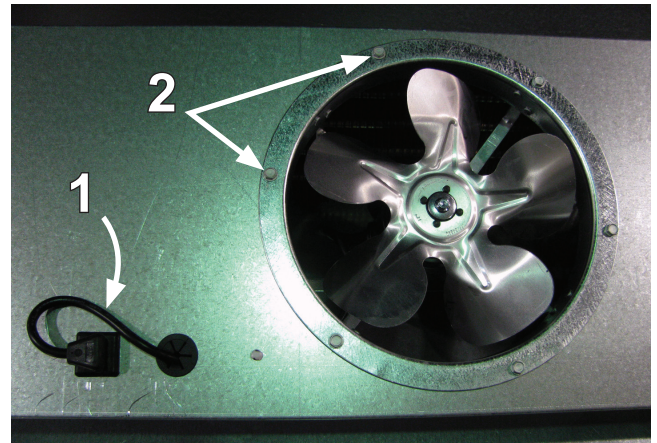

Fig. 12 Fan basket
1. Unplug the fan motor (Fig. 12), easily accessible outside the plenum. Be certain to push power cord back through plenum opening to avoid damage to power cord